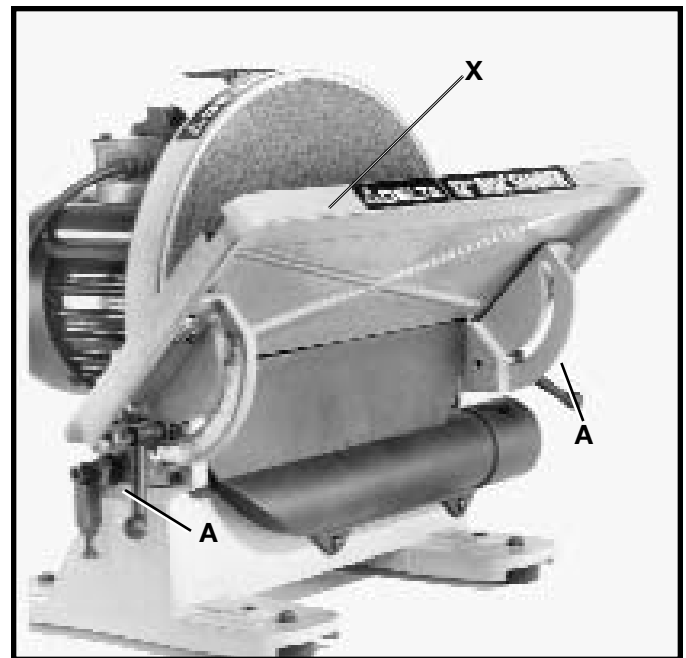
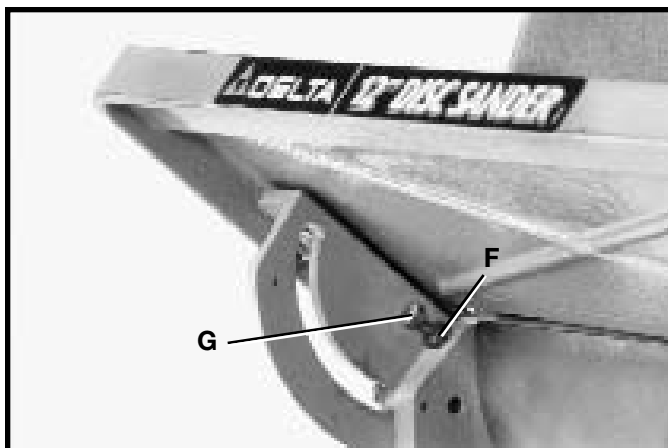
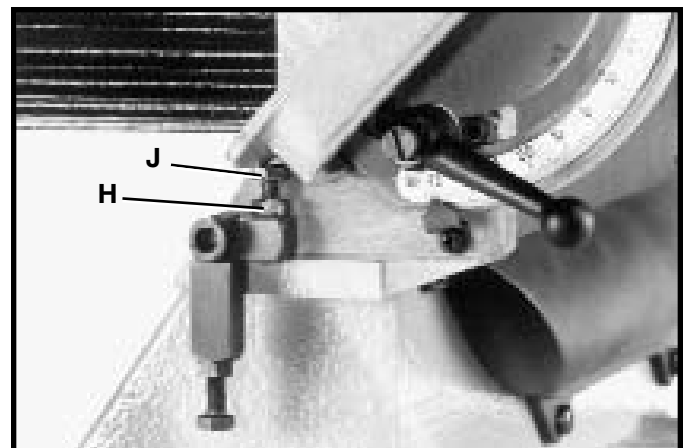

Fig. 17
Fig. 18
Fig. 19
The table can be tilted up to 45 degrees up or down. To tilt the table down as shown in Fig. 14, loosen table lock handles (A) Fig. 13, and pivot table until desired angle is established. Then tighten table locking handles. To tilt the table (X) up as shown in Fig. 17, loosen table lock handles (A) Fig. 13, pivot 90 degree positive stop (B) Fig. 15, to the position shown, and tilt the table to the desired angle. Then tighten table locking handles. **NOTE:** Table locking handles (A) Fig. 13, are spring-loaded and can be repositioned on the stud by pulling out the handle and repositioning it on the nut. A scale (C) Fig. 15, and pointer (D) are provided to indicate the degree of tilt.
**⚠WARNING: WE SUGGEST THAT ALL BEVEL SANDING APPLICATIONS BE PERFORMED WITH THE TABLE TILTED DOWN AS SHOWN IN FIG. 14; HOWEVER, IF THERE IS A NEED TO TILT THE TABLE UP AS SHOWN IN FIG. 17, THE WORKPIECE MUST BE SECURELY FASTENED OR CLAMPED TO A FIXTURE OR JIG TO PREVENT THE WORKPIECE FROM BEING TORN FROM HANDS AND BECOMING TRAPPED BETWEEN THE TABLE AND ABRASIVE DISC.**
2. Loosen table locking handles (A) Fig. 17, and tilt the table up as shown, to expose lock nut (F) Fig. 18, and screw (G). Loosen lock nut (F) and return table to the 45 degree down position. With the table lock handles loose, turn adjustment screw (G) using the supplied wrench (not shown) until the table is 45 degrees to the disc. Then tighten lock handles (A) Fig. 17, and locknut (F) Fig. 18.
3. Tilt the table to the 45 degree up position as shown in Fig. 17, and tighten table locking handles (A). Place a square on the table and against the disc and check to see if the disc is 45 degrees to the table surface. If an adjustment is necessary, proceed as follows:
4. Loosen table locking handles (A) Fig. 17, and locknut (H) Fig. 19, located on the left side of the table. Turn adjustment screw (J) using the supplied wrench (not shown) until the table is 45 degrees to the disc. Then tighten table locking handles and locknut (H) on adjustment screw (J).
5. Adjust pointer (K) Fig. 19, so that the pointer reads 45 degrees.